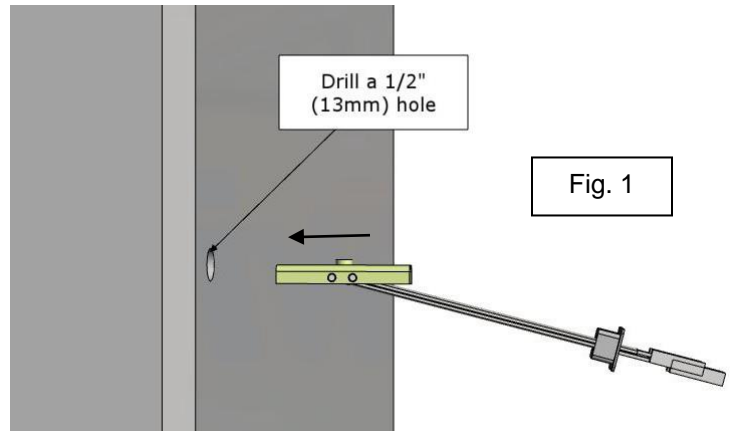

Fig. 1
1. **LOCATION** – Make certain that the chosen wall bracket location is near enough to the connection interface so that it can be connected to it. The cables can also enter from behind the wall bracket. Also position the wall bracket at a mounting height of **47±2 inches**. See Figure 1.
1. Drill a 1/2" (13mm) hole, in the center of the stud flange. Hold metal channel flat alongside plastic straps and slide channel through hold. Minimum clearance behind wall 1-7/8" (48mm). Fig. 1